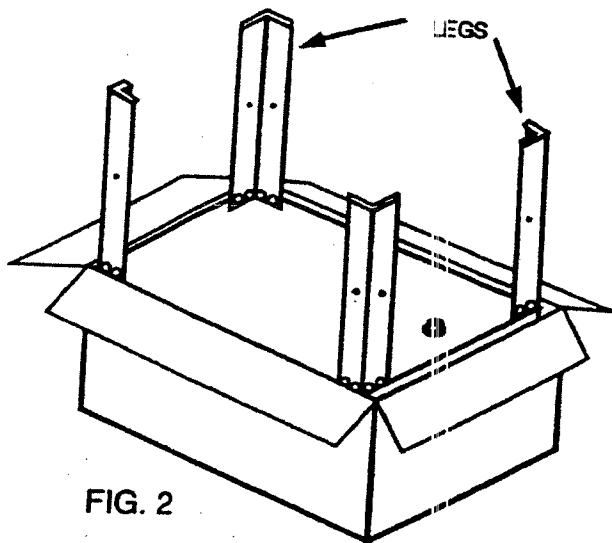
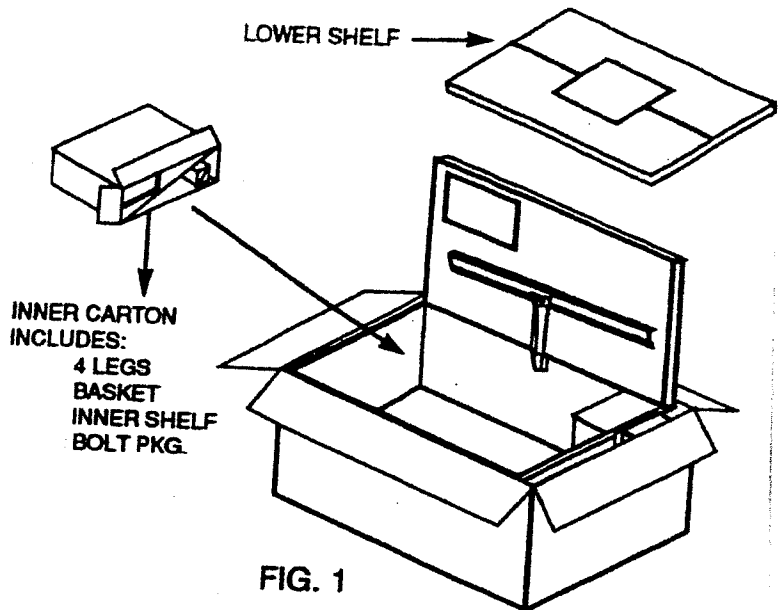
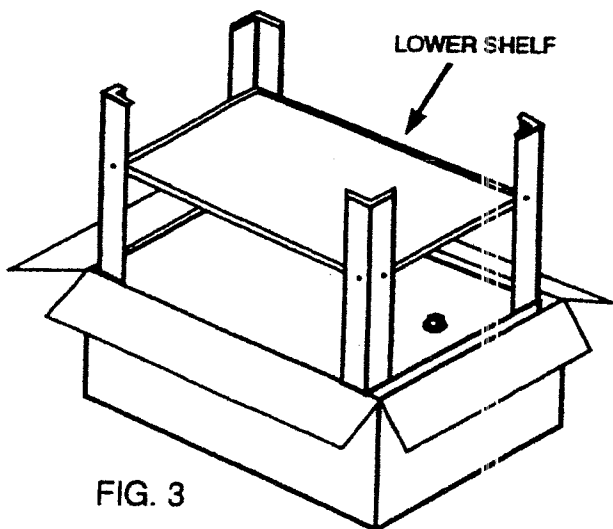

FIG. 2
FIG. 1
FIG. 3
STEP 1 Remove lower shelf. Open Tank; remove inner carton and remove parts packed inside (fig. 1). Inspect for damage. Close cover on tank and reclose top carton flaps.
STEP 2 Turn the carton upside down and open bottom carton flaps. Assemble legs to brackets on bottom of tank (fig.2) with the 4 legs and bolt pkg. listed in fig. 1. Do not tighten bolts at this time.
STEP 3 Remove packing from lower shelf (shown in fig. 1) and assemble inside of 4 legs using remaining nuts and bolts (fig. 3). Tighten all bolts